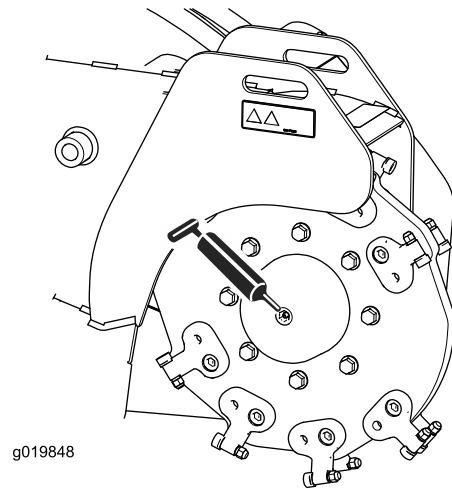
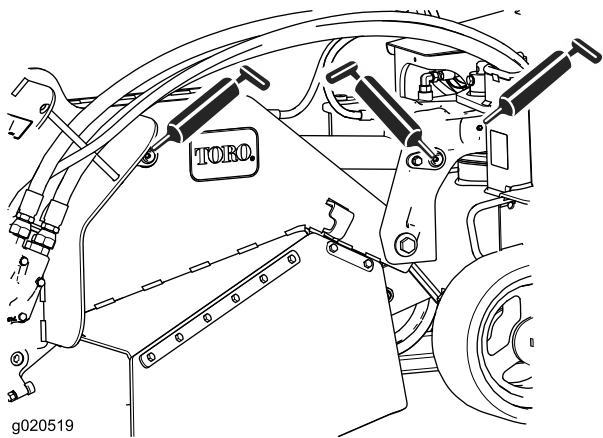

Figure 27
Figure 29
- Connect a grease gun to each fitting (Figure 27 through Figure 29).